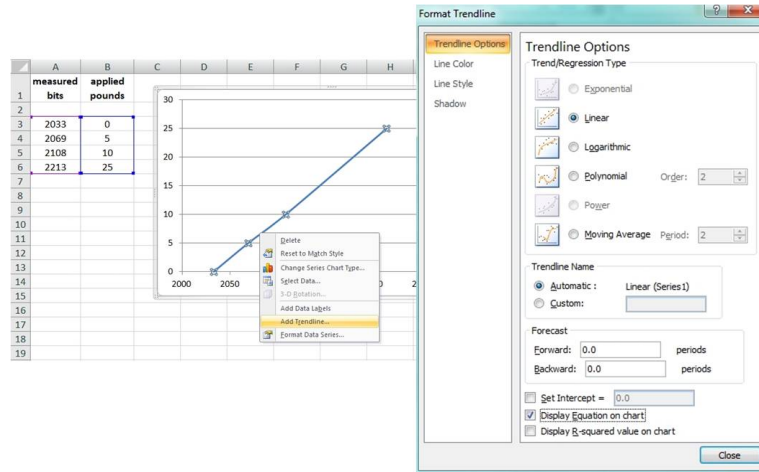

Figure 39 - Plot Trendline
5. Designate the line as Linear, and check the option to Display the Equation on the chart (*Figure 39 - Plot Trendline*).